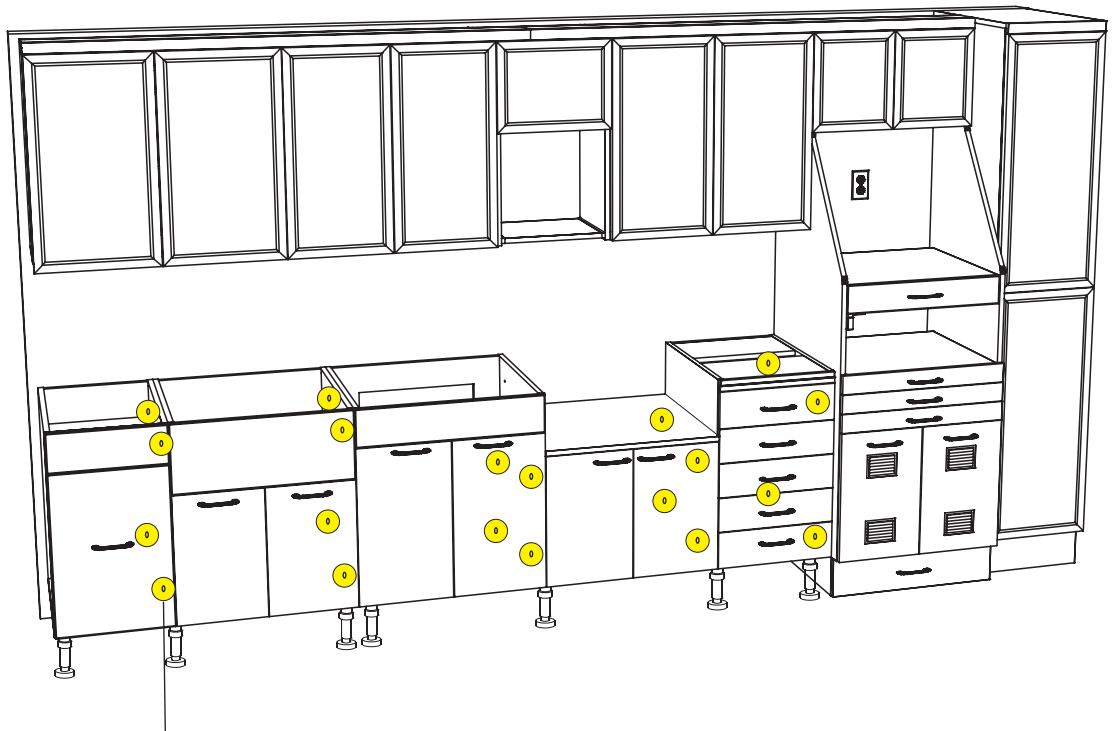

Figure 11
Secure Cabinets (G, H, I, J, and K) together by opening doors/removing drawers and inserting (4) Connectors (K1 & K2) through the (4) holes through each Base Cabinet End. Tighten Connectors with screw drivers (see Figure 11).